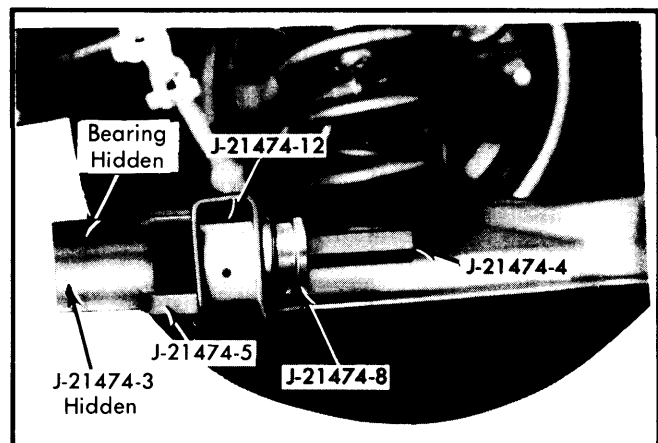

Fig. 5 Removing Lower Control Arm Bushing
4) Install spacer tool (J-21474-12) as shown in Fig. 5. Install remaining tools as shown in Fig. 5, and turn hex bolt and nut until bushing is removed. Remove tools and discard bushing.
**Rear Bushing Installation** – Position new bushing and install correct tools as shown in Fig. 5. Using spacer, turn hex bolt and nut until new bushing is seated. Reverse removal procedure to complete assembly.
**Front Bushing Removal** – With lower control arm removed, remove bushing flare by tapping on edge with hammer. Install tools as shown in Fig. 5. Turn down on hex nut until bushing is removed.